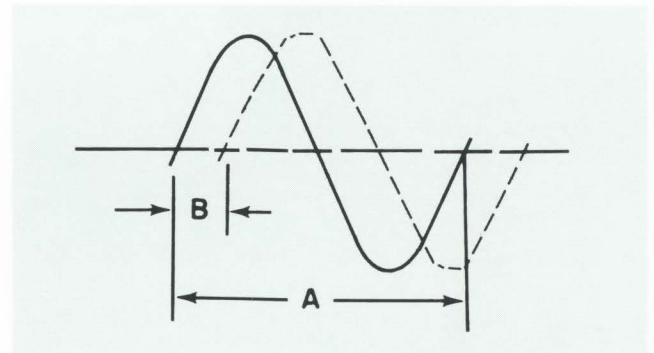

Figure 2-6. Phase-Shift Measurements
7. Divide the distance measured in step 5 by the distance measured in step 6 and multiply the quotient by  $360^\circ$ . The resulting product is the phase difference between the two sine waves. See Figure 2-6.